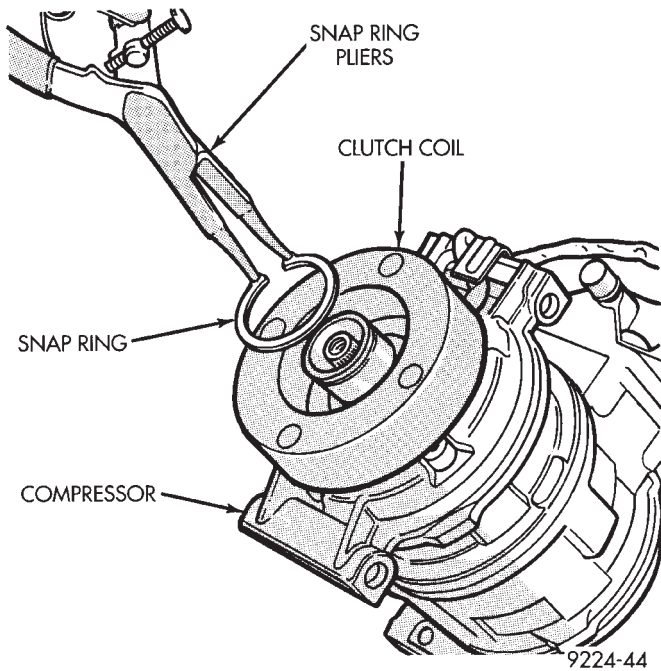

Fig. 9 Clutch Coil Snap Ring Remove/Install
- (6) Remove the snap ring from the compressor hub and remove the clutch field coil (Fig. 9). Slide the clutch field coil off of the compressor hub.